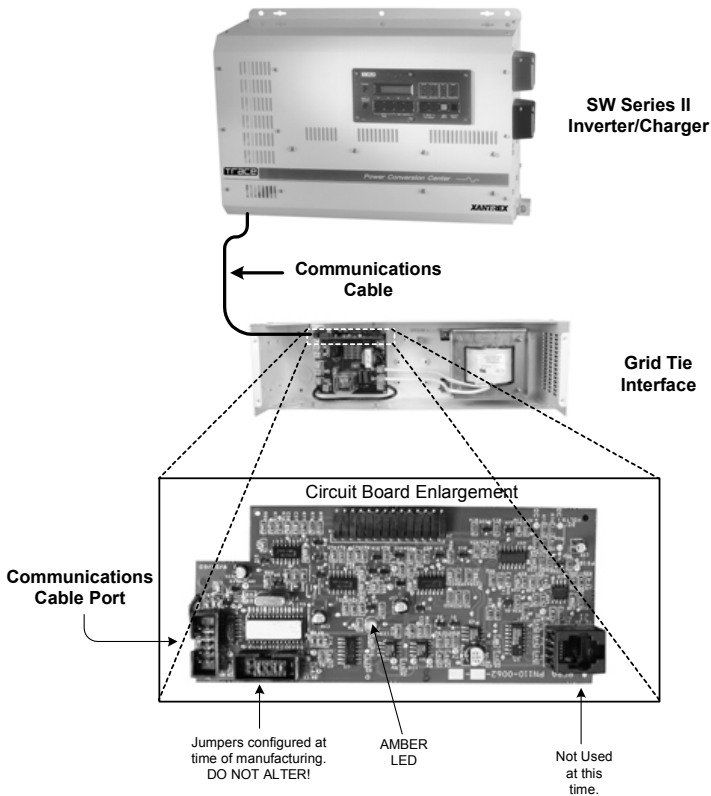

Figure 2-7
3. Connect the loose end of the communications cable to the communications cable port on the GTI circuit board. See Figure 2-7.
See Figure 2-6 for the location of the communications cable inside the SW inverters. See Figure 2-7 for the location of the communications port on the GTI circuit board.